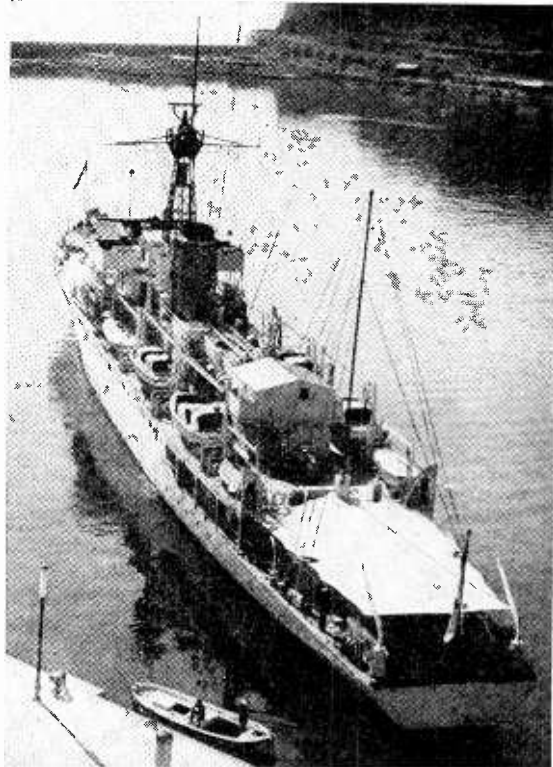

Fig. 4. British Naval Survey Ship equipped with Two-range Decca showing tubular aerial mast for transmission of the master signal.
**Equipment.**—Briefly reviewing the items of equipment comprising a Two-range Decca chain, the shipborne master installation consists of a duplicated unit containing a stable crystal oscillator which provides the source of the master signal, feeding a 350-watt c.w. transmitter. The 45-foot tubular transmitting aerial mast (Fig. 4) is base-insulated and is supported at three heights by stays insulated at their lower ends.